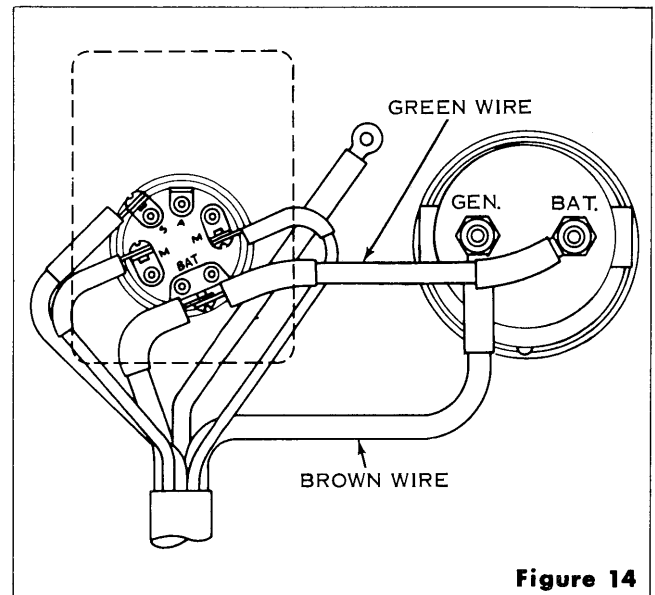
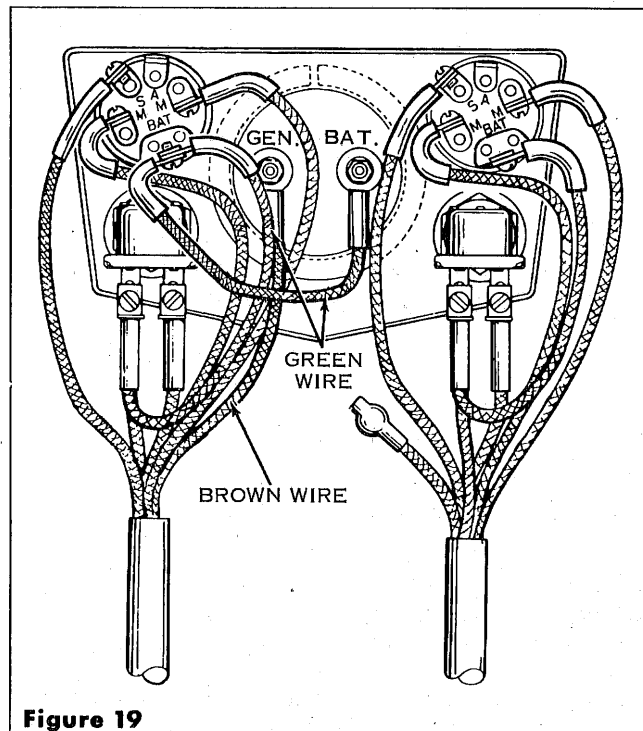

Figure 14
Figure 19
1. The ammeter must be mounted near the location of the starter switch plate on the dashboard. Be sure that the position selected is near enough so that the connecting leads will reach. See Figure 14, 15 and 16.
5. Connect the loose end of the green wire to the terminal of the starter switch which is marked BAT. Two terminals will then be on one screw. See Figure 14.
6. Remove the insulating cover from the unused brown wire on the starter switch to junction box cable. Connect this wire to the vacant ammeter terminal post (marked GEN). See Figure 14.
On twin motor installation, use a generator on one motor only to charge one battery. Do not use two generators to charge one battery. Installation at motor and installation at junction box will be the same as for a single motor installation. Be sure to install the generator junction box cover on the junction box for the motor on which the generator is mounted. Installation at the switch plate is essentially the same as for the single motor installation. Be sure that installation is made on the set of switches and cable connecting to the junction box with the regulator. Connect the green wire on the ammeter to the terminal on the switch with the single green wire (starter switch). Remove the insulating cover from the unused brown wire on the switch to junction box cable. Connect the wire to the vacant ammeter terminal post. See Figure 19 for installation on Starter and Choke Switch Plate. For Starter Switch only, installation will be similar to Figure 14.